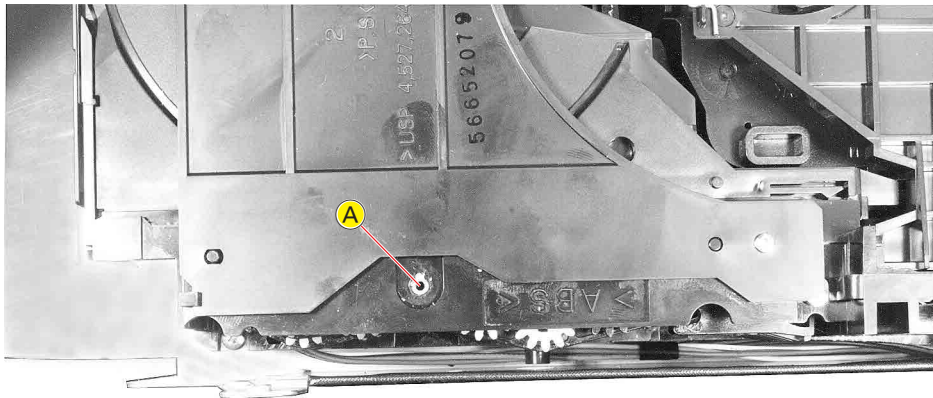

Fig. 2
Moving the tray can be done by using a hex socket wrench size 2mm. Insert the hex socket wrench into the shaft (A) (Fig. 2) and turn it carefully.